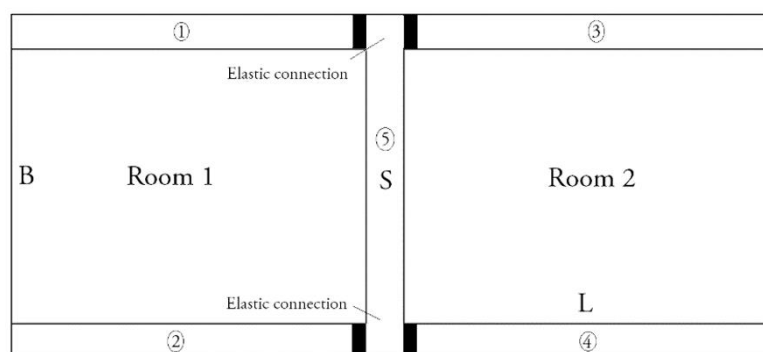

Figure 1. Room 1 and 2 from above.
All walls are made of dense concrete, where S denotes the area between the two neighboring rooms: $S=4 \times 2.5 \text{ m}^2$ (i.e. the area of the wall that is to be analysed). All walls numbered from 1 to 4 in Figure 1 are single leaf concrete walls with the same density and thickness and a weighted reduction index of $R_w=48$ dB. The apartment separating wall, labelled with the number 5 in Figure 1, is also a single leaf concrete wall with the same density and thickness as the others, but its weighted sound reduction index is $R_w=52$ dB.
- a. From the provided laboratory measurements (i.e. the different R_w for all walls), calculate the apparent sound reduction index R'_w applying the procedures described in EN 12354-1:2000 (i.e. taking flanking transmission into consideration). Some useful expressions and diagrams from the lecture notes are inserted below. Consider just the flanking paths that you can "see" in Figure 1, i.e. the flanking transmission of the flooring system and ceiling can be neglected (i.e. 2D situation, only 7 paths). (7p)